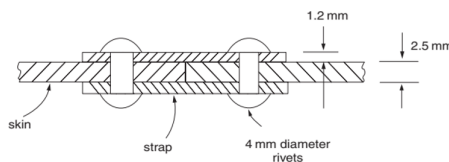

Figure 1
- A joint in a fuselage skin is constructed by riveting the abutting skins between two straps as shown in Figure 1. below. The fuselage skins are 2.5 mm thick and the straps are each 1.2 mm thick; the rivets have a diameter of 4 mm. If the tensile stress in the fuselage skin must not exceed 125 N/mm^2 and the shear stress in the rivets is limited to 120 N/mm^2 determine the maximum allowable rivet spacing such that the joint is equally strong in shear and tension. [7M]